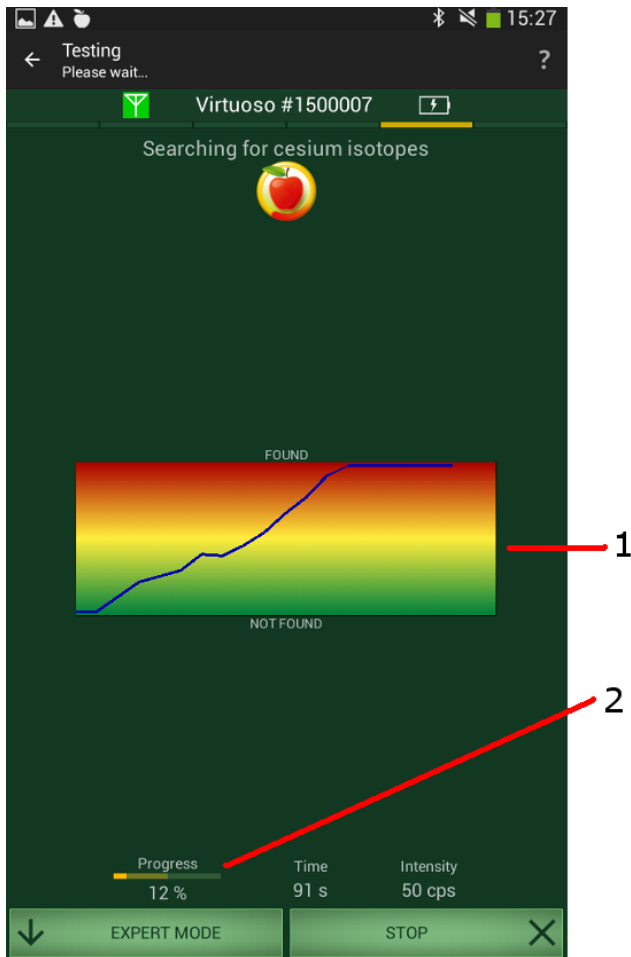

Figure 2.11 - Searching for cesium isotopes (basic mode)
1) The application window in the basic mode is shown in Figure 2.11.